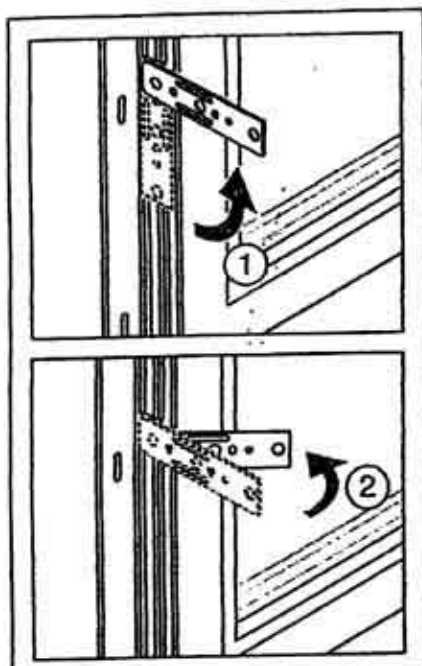

Figure 3-1. How to rotate and bend the strap anchors
- 1.2 If strap anchors are included with the window, rotate them until they are at right angles to the frame. Bend the strap anchors inwards about 45°. See fig. 3-1.